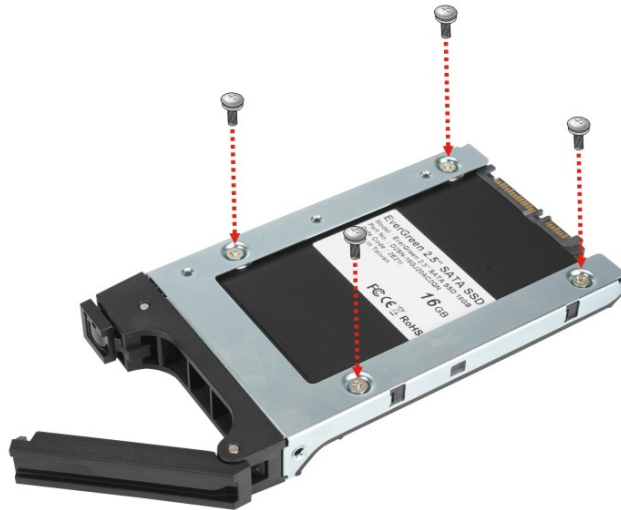

Figure 3-7: SSD Retention Screws
Step 3: Place an SSD onto the drive tray and secure the SSD with the bracket by inserting four retention screws (M3*4) into the bottom of the SSD (**Figure 3-7**).